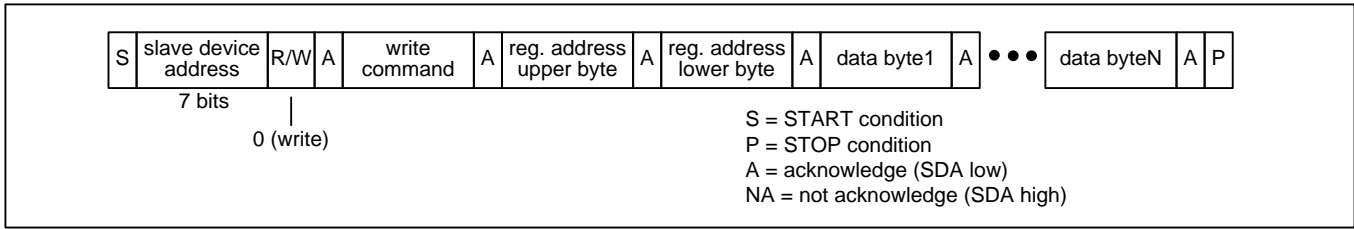

Figure 17 – I2C Register Write Transaction Functional Timing
**Register Write Transactions.** The device registers are accessible when **EESEL=0**. The bus master does an I2C write to the device. The first three bytes of this transaction are the SPI Write command (see Table 4), the upper byte of the register address, and the lower byte of the register address. Subsequent bytes are data bytes to be written. After each data byte is received, the device writes the byte to the write address and then increments the write address. The bus master terminates the write with a STOP condition (P). See Figure 17.